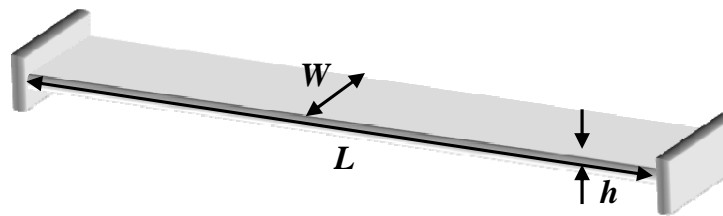

Figure 2
- (a) Using (1), derive an expression for the ratio of frequency shift to mass change ($\frac{\Delta f}{\Delta m}$).
2. The general equation for transverse free vibrations of a prismatic beam, such as shown in Figure 2, can be expressed as